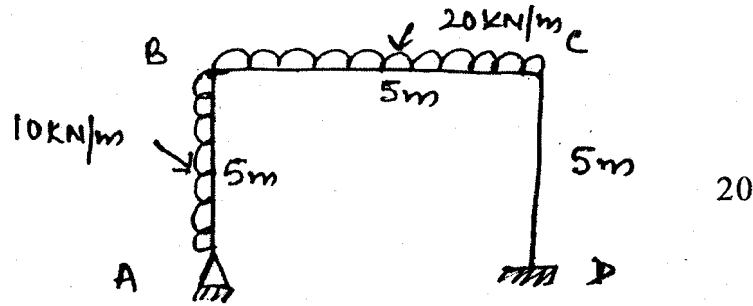

fig. 3.
- 3 Collapse loads acting on frame ABCD are shown in fig. 3. Determine plastic moment capacity of the required section.